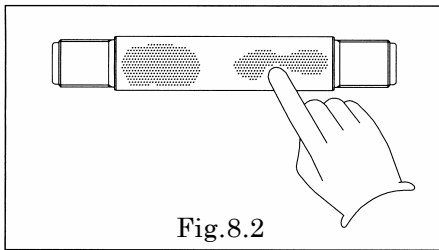

Fig.8.2
- Apply lubricant to the whole surface of center rod. [Fig.8.2]